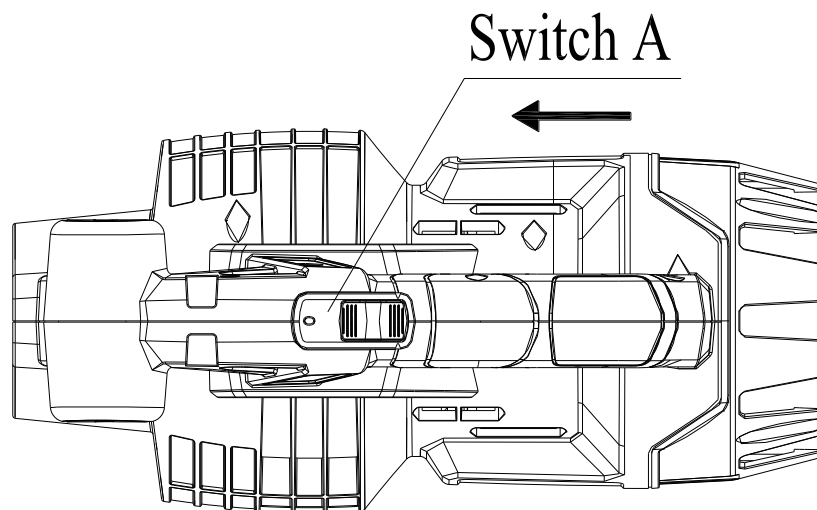
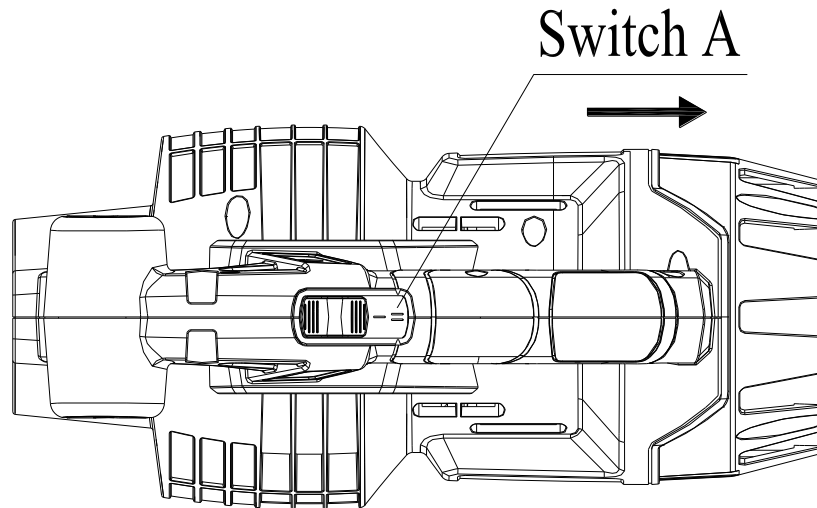

fig.5
fig.7
3, Starting the tool(fig.5--fig.7)
- To start this tool, you should push the switch A, and the machine opens(fig.5)
- **0 stands for stop** (fig.5)
- **II stands for high speed** (fig.7)